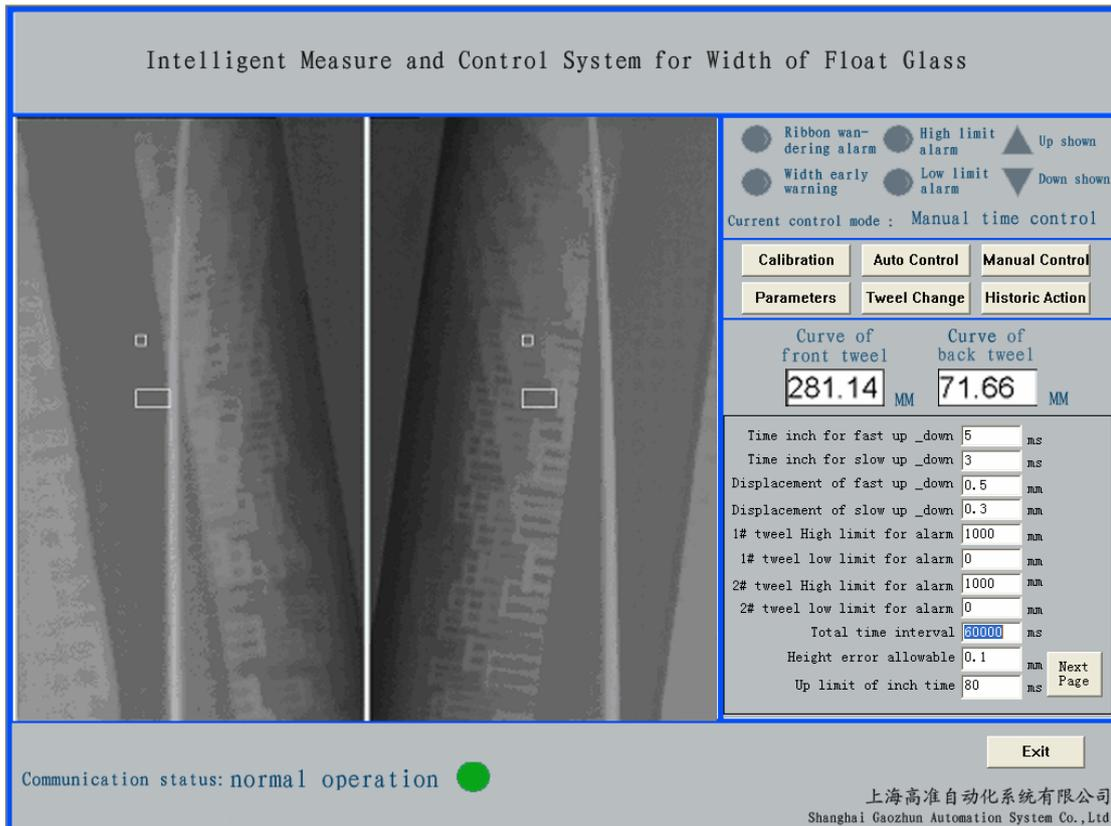

Fig. 7 Interface of Parameter Setting
5.3 After click the button of “parameter” with the left key of mouse, it enters into the interface of parameter setting, as shown in Fig. 7